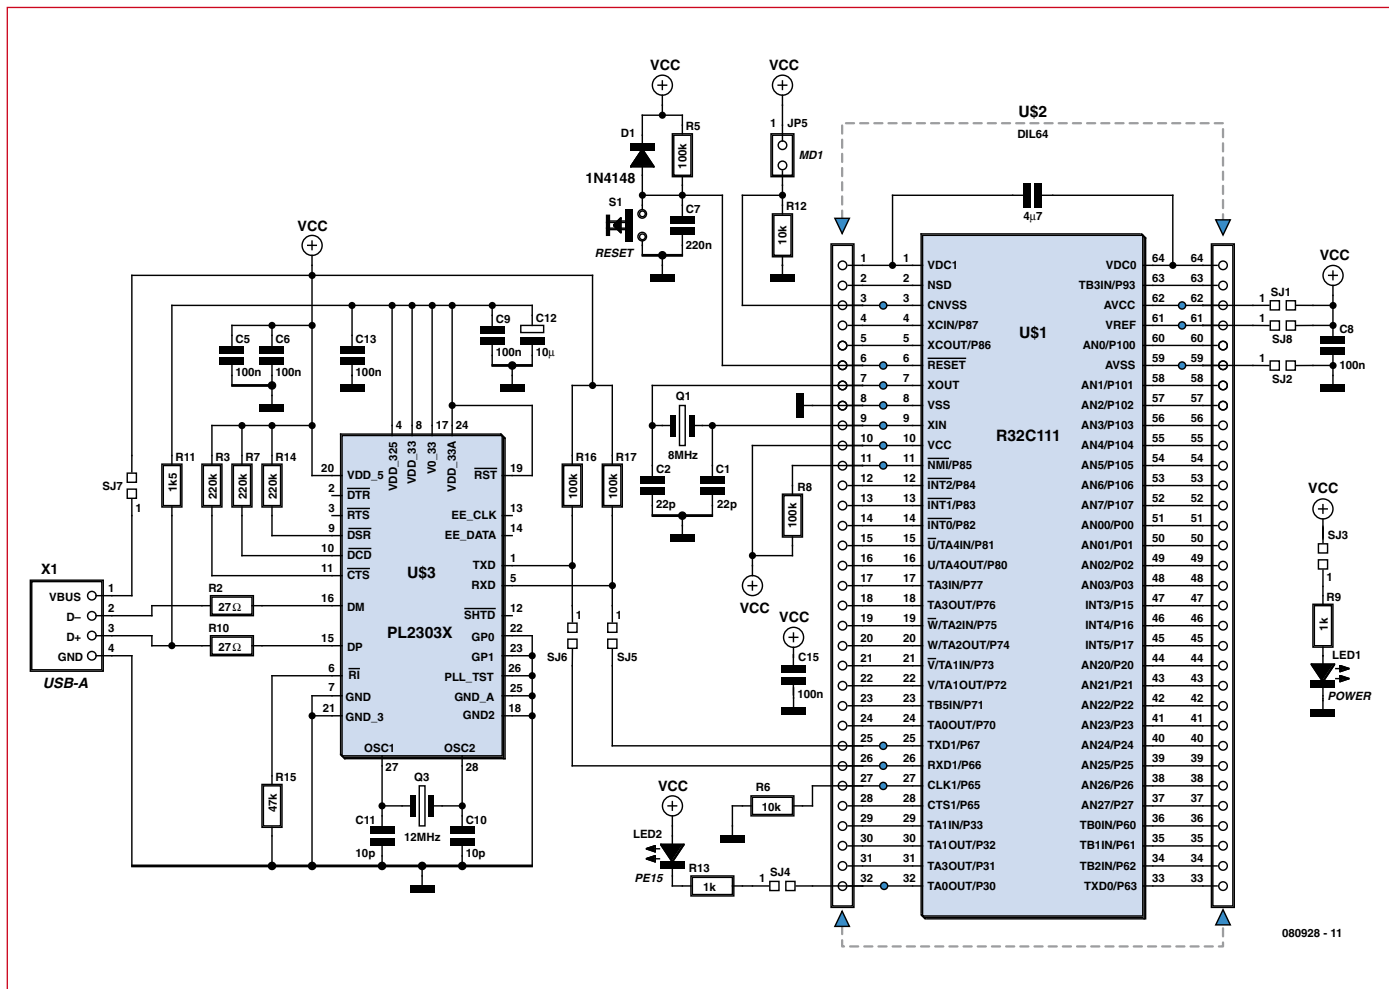
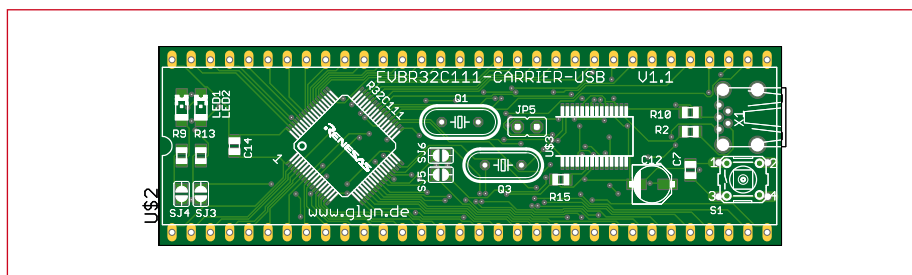

Figure 1. Circuit diagram of the R32C/111 carrier board.
Figure 2. Component placement and track layout of the PCB.
**Figure 1** shows the circuit of the R32C carrier board, with the printed circuit board (PCB) in **Figure 2**. Placing the components on the PCB (upper photo) is pretty straightforward.